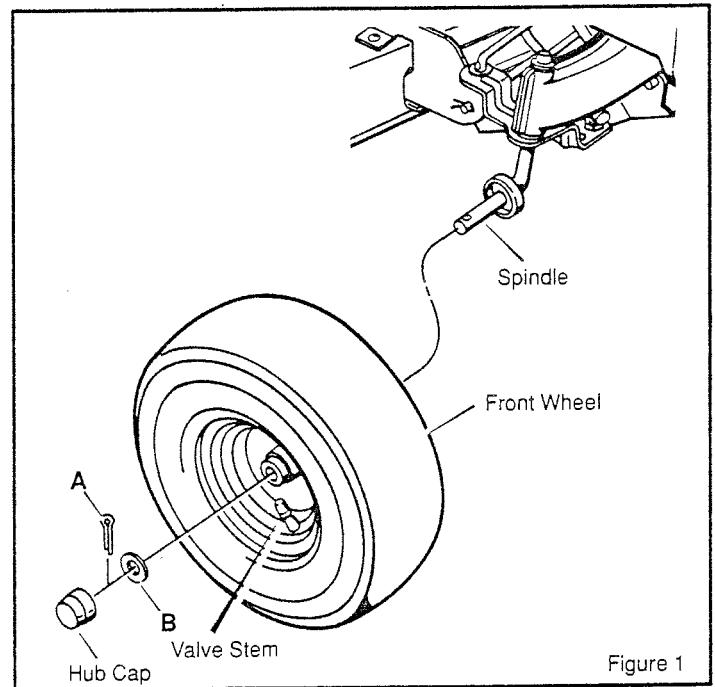

Figure 1
3. Fasten each **front wheel** with the fasteners (Figure 1). Bend the ends of the cotter pin apart to keep the **front wheel** on the **spindle**.